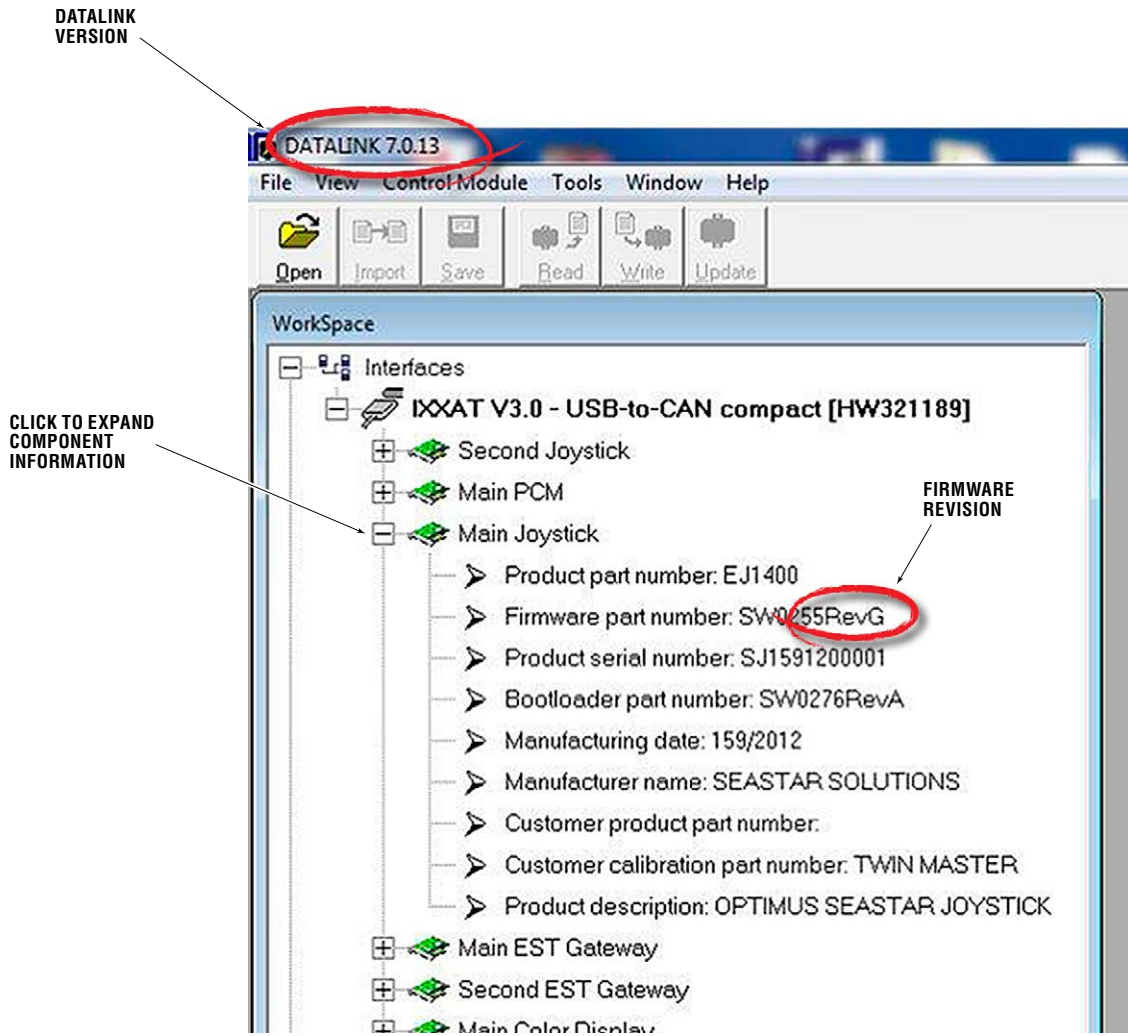

Figure E-6. Datalink Workspace.
1. In the Interfaces section in Datalink, click on the box to expand the component information. See figure E-6. (In an EPS system you will see only the PCM and Helm in the component list.)